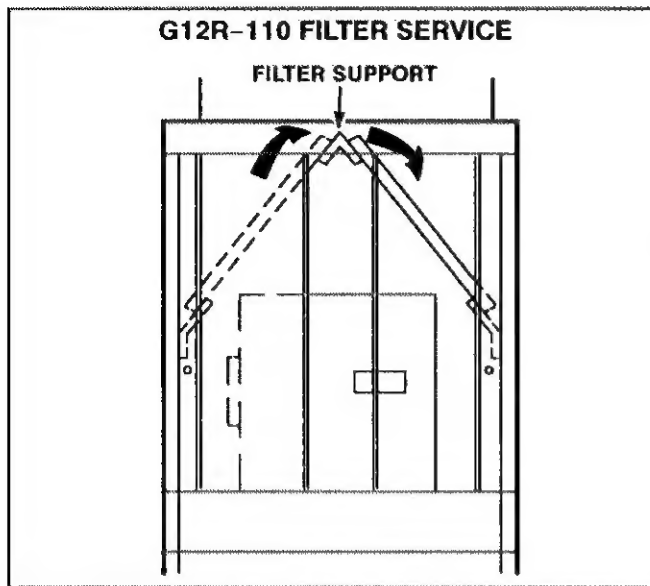

FIGURE 11
- 3- Remove filters by pushing up and around filter guide rails. See figure 11.